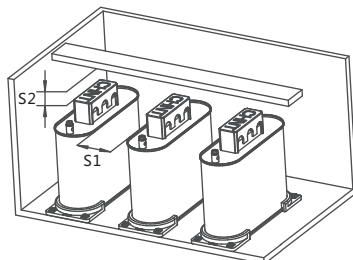

Figure 5 Capacitor installation drawing
6.2 See Figure 5 and Table 5 for installation spacing